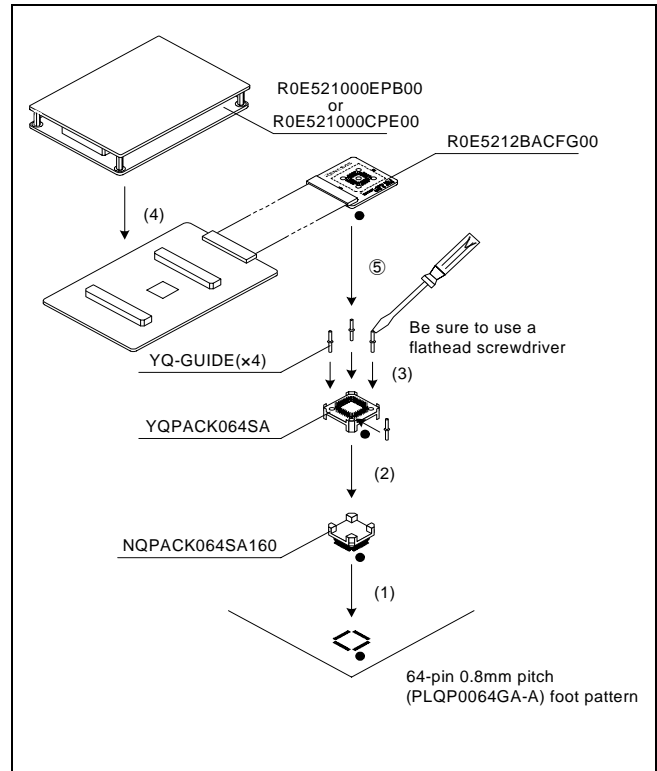

Figure 3 Connection procedure of the R0E5212BACFG00
5. Connection Procedure (See Figure 3)